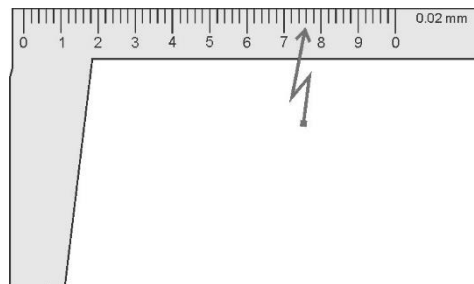

Figure 4 The movable jaw of the caliper with the engraved vernier scale indicated on it.
3. **Figure 4** shows the movable jaw of the vernier caliper again. On it is an engraved scale where each small division represents 0.02 mm. We say that the least count or resolution of the caliper is 0.02 mm. The line to the right of the 0 line is thus the 0.02 mm line. To its right is the 0.04 mm line, then the 0.06 mm followed by the 0.08 and the 0.10 mm with a 1 digit indicated next to it. What vernier line is the arrow pointing to on the scale in **figure 4**?